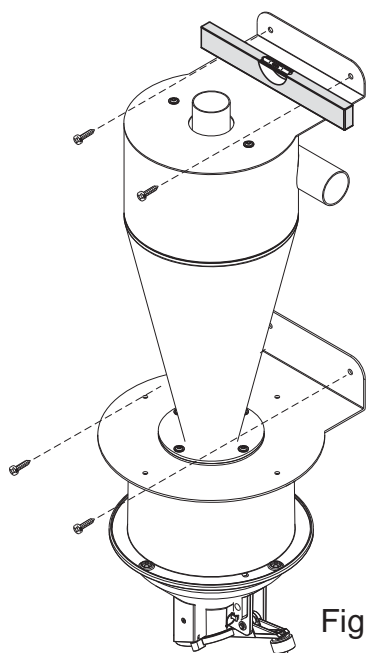

Fig.1
**The cyclonic dispenser must be installed in a perfectly horizontal position with a spirit level (Fig.1)**